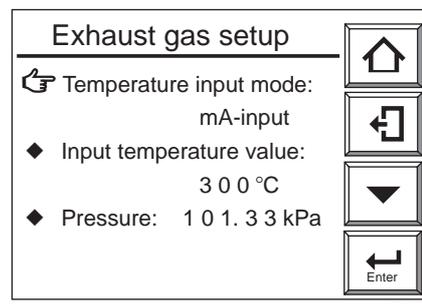
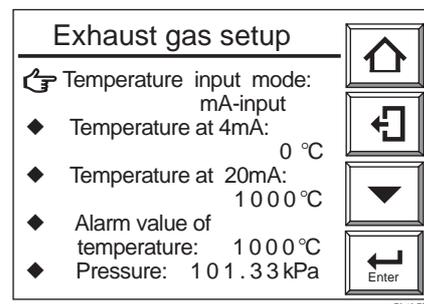

Figure 8.18 Exhaust Gas Setup Display (Preset Entry)
Figure 8.19 Exhaust Gas Setup Display (Entering mA-input)
- (1) Press the Setup key in the basic panel display to display the Execution/Setup display.
- (2) Select Setup in the Execution/Setup display. The “Commissioning” (Setup) display then appears.
- (3) Select Others in that display and then the Exhaust gas setup shown in Figure 8.18.
- (4) Point to the Temperature input mode and press the [Enter] key. Then the display for selecting either “Preset” or “mA input,” appears. Choose the desired one for your system requirements.
- (5) If you choose the “Preset,” a display for entering numeric data then appears. Enter the measurement gas temperature (see CAUTION).
- (6) If you choose “mA-input,” the Exhaust gas setup display shown in Figure 8.19 appears. Enter temperatures at 4- and 20-mA outputs of the temperature transmitter from the numeric data entry display (See CAUTION).
- (7) If you use measurement gas temperature alarms, choose the “Alarm value of temperature” and enter an alarm temperature from the numeric data entry display.